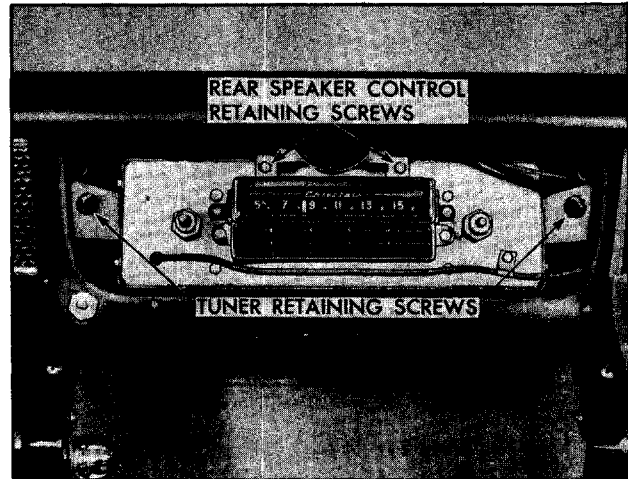

Fig. 14-1 Radio Tuner and Rear Speaker Control Installation
8. If car is equipped with rear seat speaker, remove two screws which retain rear speaker control to tuner and remove control (Fig. 14-1).
9. Remove screw and lock washer from tabs on either side of tuner (Fig. 14-1).
1. Position tuner unit in opening in instrument panel and place brace over stud on right hand side of tuner; install screws on either side of tuner (Fig. 14-1) and tighten screws securely.
2. If car is equipped with rear seat speaker, install speaker control on tuner unit (Fig. 14-1).